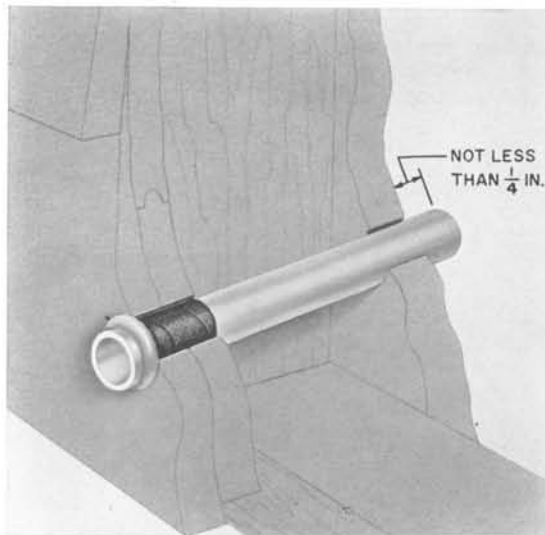

FIG. 14—PLACING TUBE
5.01 Plastic or porcelain tubes are required at building entrance holes only if there is a possibility of severe abrasion and/or where fused protection is required and the wire passes through a flammable surface. Place tube as shown in Fig. 14. Cut porcelain tubes with a tube cutter and cut plastic tubes with a hack saw or diagonal pliers. Split tubes should not be used at entrance holes.